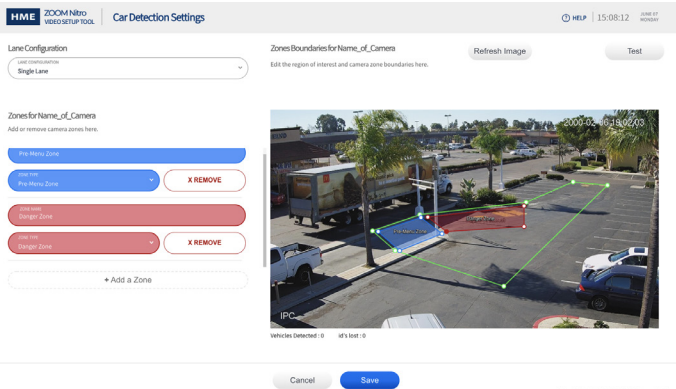

Fig. 4.6
- Region of Interest (ROI):** This is the selected area within the camera’s field of view that the system is concerned about. This region defines the overall region of interest which includes the Danger and Pre-Menu Zone(s) and/or Mobile/Pull-forward Zone(s). Fig. 4.6 defines the Region of Interest for a Single-Lane configuration. The green boundary line indicates this region.
- Danger Zone (DZ):** This is an area of the drive-thru where cars get in line to join the queue for the drive-thru, but still have the ability to drive off without placing an order. Vehicles might do this if the wait time is too long or they simply decide they don’t want to order anything. In Fig. 4.6, the red area defines the Danger Zone.
- Pre-Menu Zone (PM):** This is an area approaching the menu board where vehicles are captive or bound in by the lane. Vehicles at this point have already passed through the Danger Zone and cannot easily drive off. In Fig. 4.6, the blue area defines the Pre-Menu Zone.
7. Finally click + Add a Zone button again, the Danger Zone fields appear with a new bounding box (red) in the image (it will be yellow if it overlaps the ROI). Adjust this box as you did with the ROI to define this zone and click Save when you are finished. You should now have three zones in your image, one ROI zone (green boundary line), one Pre-Menu zone (blue area), and one Danger zone (red area). This completes the Zone Drawing section, see Fig. 4.6.